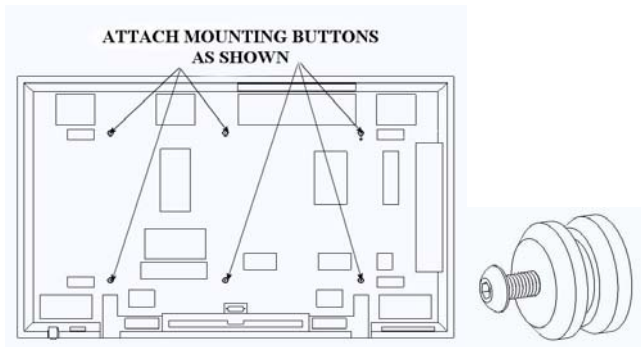

Figure 2
1. Attach mounting buttons to plasma using six M8 x 20 cap screws provided (see figure 2).